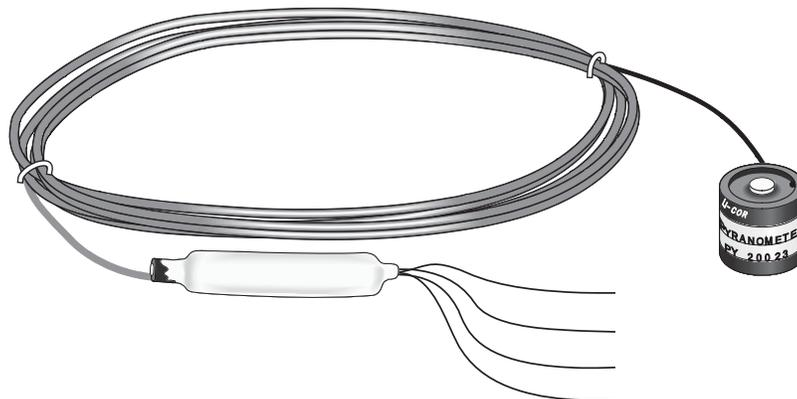

FIGURE 5-1. LI200X Pyranometer with -PT cable termination option.
- Pigtails that connect directly to a Campbell Scientific datalogger (cable termination option -PT; see FIGURE 5-1).